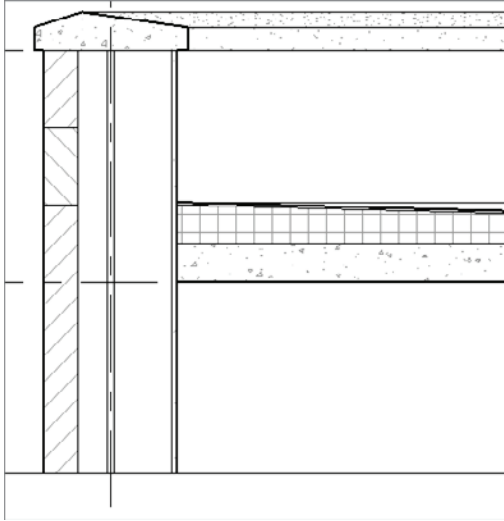

FIGURE 12.3 Your section's outline should begin looking a lot better.
11. Click OK, and you'll see the change to your outline (see Figure 12.3).